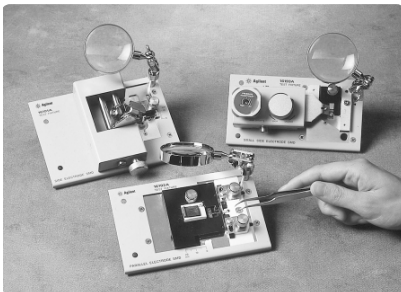

Figure 15. 16191A/16192A/16193A
- Accommodated SMD size: See Figure 15.